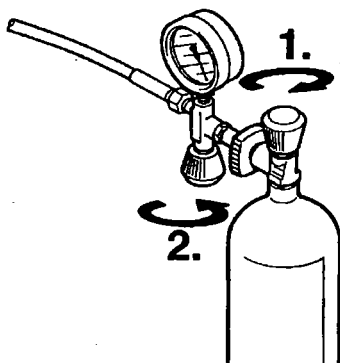

Fig. 10 Removing air bottle
- Upon reaching final bottle pressure **close bottle valve first** (1, Fig. 10), then filling valve by returning handle to closed position (2).